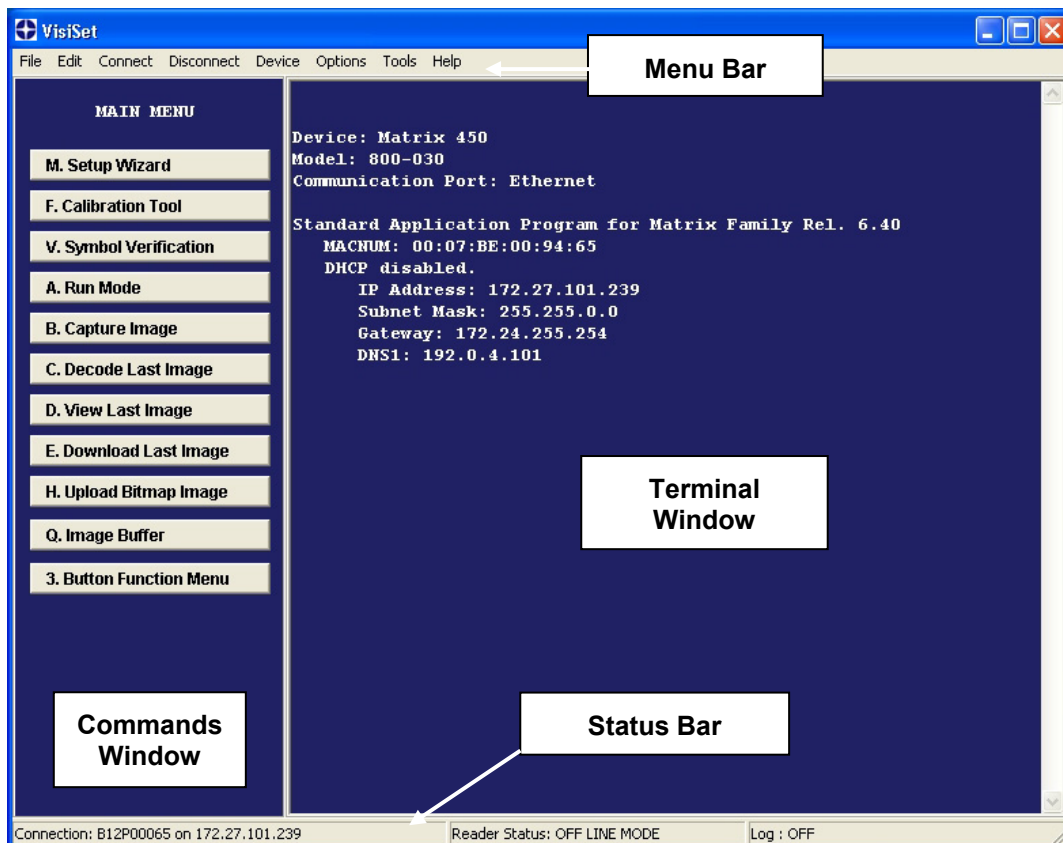

Figure 99 - Main Window
Upon connection, Matrix 450™ exits Run Mode and displays the Main Menu on VisiSet™ with all the commands necessary to monitor your reader's performance. You can select these commands using the mouse or by pressing the key corresponding to the letter shown on the button. See Figure 99.
The **Options** item from the VisiSet™ menu (see Figure 99) presents a window allowing you to configure:
6. Close the Parameter Setup window and press **Disconnect** on the VisiSet™ menu bar (see Figure 99) or launch **Run** Mode from the VisiSet™ Main menu.